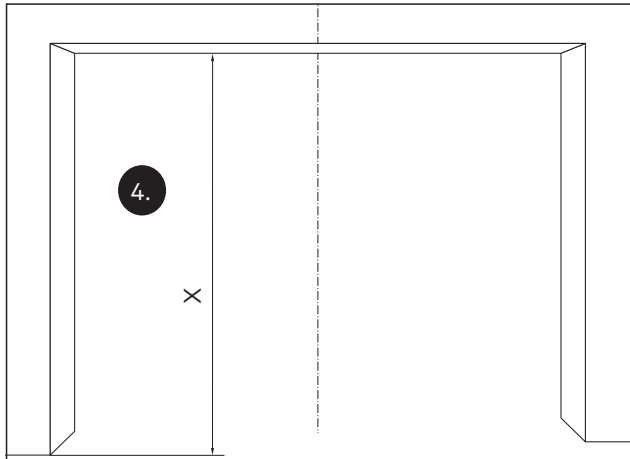

Fig. 15 Mark the distance X on the wall
4. Measure and mark dimension X from the highest point of the floor in the area of movement (Fig. 15).